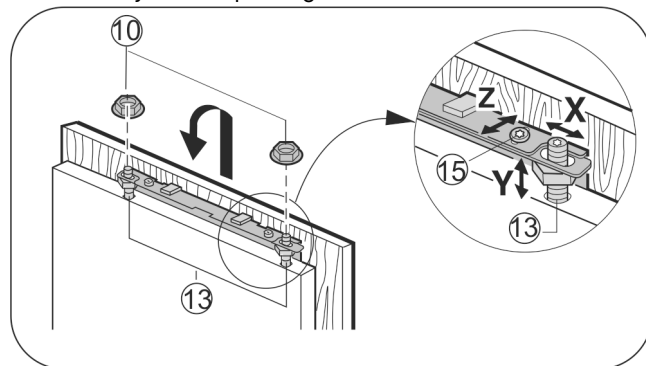

Fig. 31
- Attach the unit door on the adjusting bolts Fig. 31 (13) and loosely screw locknuts Fig. 31 (10) onto the adjusting bolts.
- To align the unit door in the Y direction (height) and in lateral inclination: Adjust the adjusting bolts Fig. 31 (13) with a screwdriver.
- ▶ Tighten the locknuts *Fig. 31 (10)*.